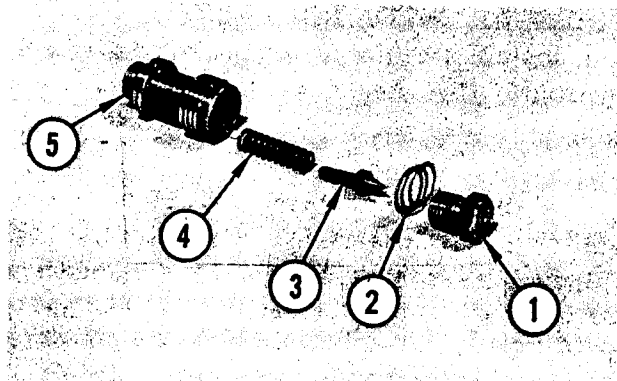

FIGURE 26. VALVE DISASSEMBLY
Refer to Figure 26. Place shop cloth around valve assembly and clamp a pair of pliers around valve body between lands. Remove orifice plug (1) and remove shims (2) from plug. Remove poppet (3) and poppet spring (4) from valve (5).